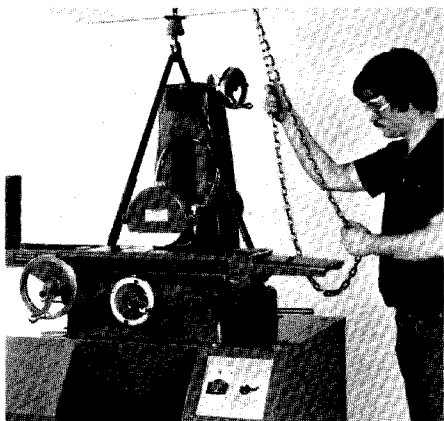

Figure 4
2.2 Attach 1800 lb. lifting strap to ends of bar and join near top of column. Pad machine adequately to prevent damage to finish. (Fig. 4)